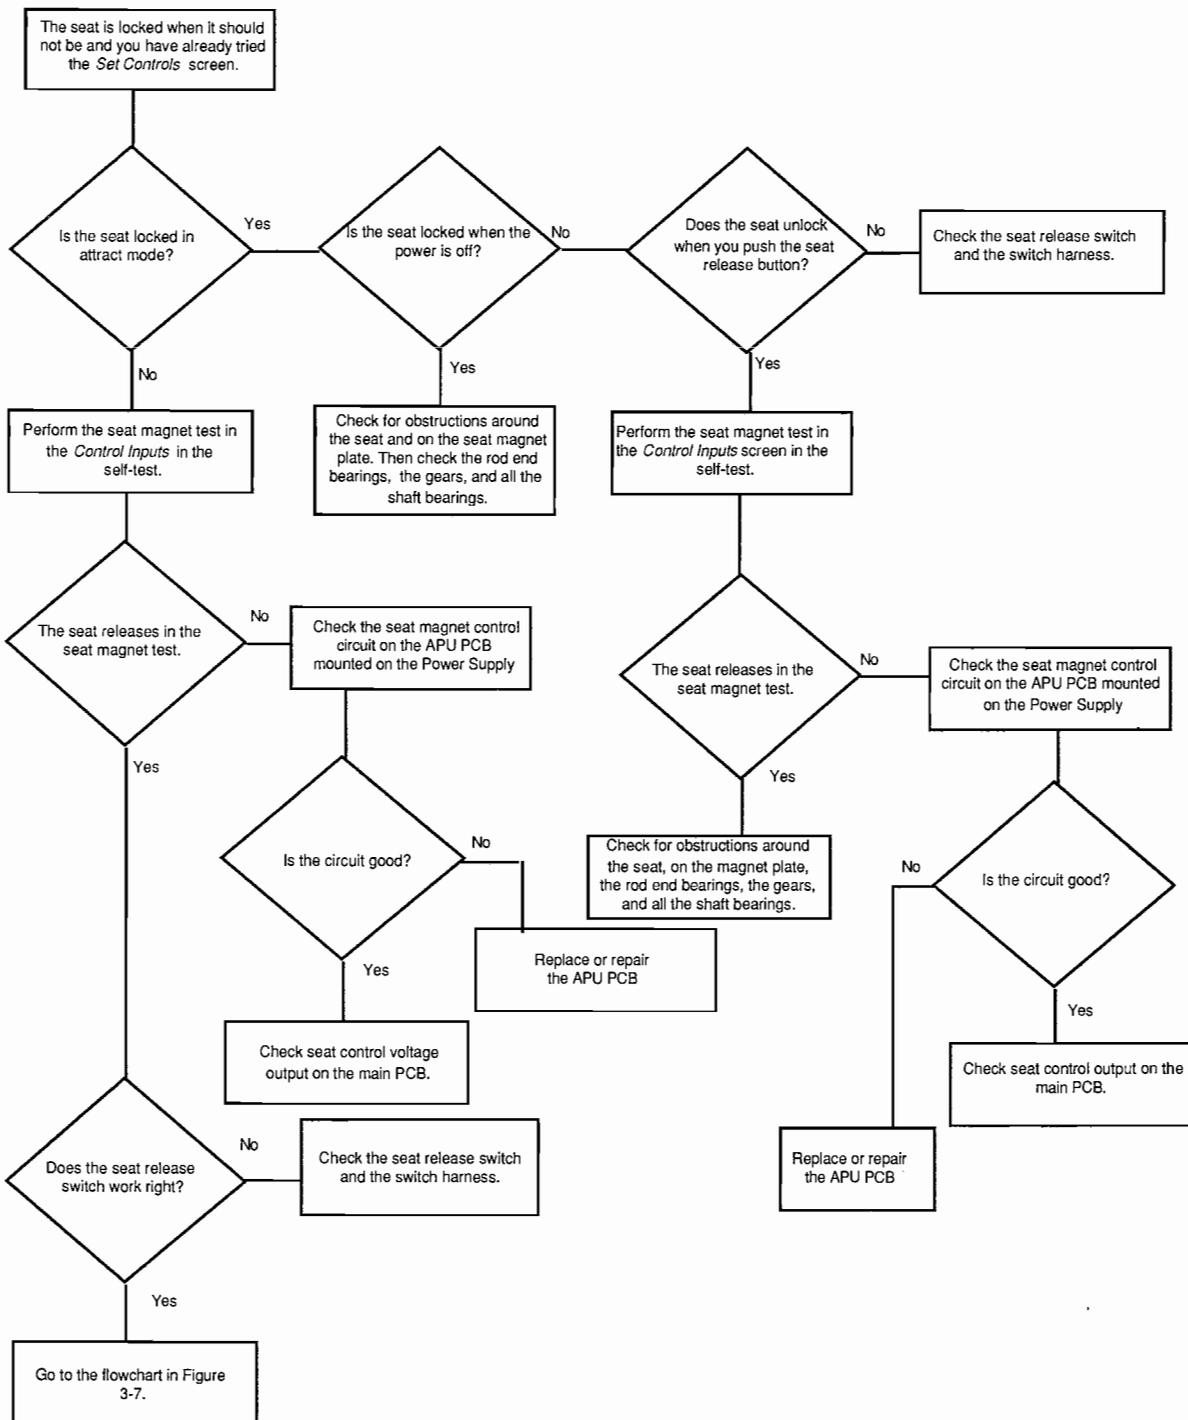

Figure 3-14 Seat is Locked When It Should Not Be And You Have Already Tried the Set Controls Screens
Seat is locked when it should not be.	<ol style="list-style-type: none"> 1. Go through the Set Controls screen in the self-test. 2. See Figure 3-14 to find out the cause. 3. Check the APU PCB.
- If the seat is locking when it should not, follow the flowchart in Figure 3-14.